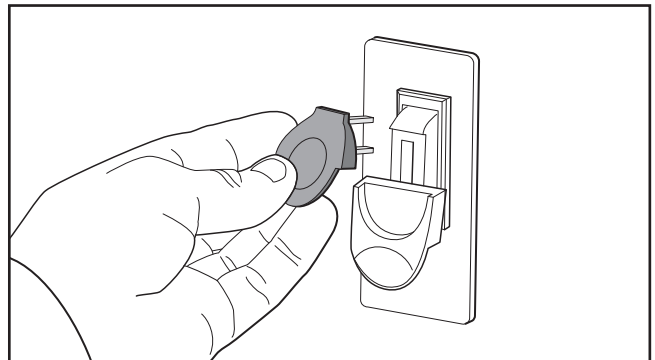

Figure 10. Removing switch disabling key from paddle switch.
7. Remove switch disabling key (see **Figure 10**).